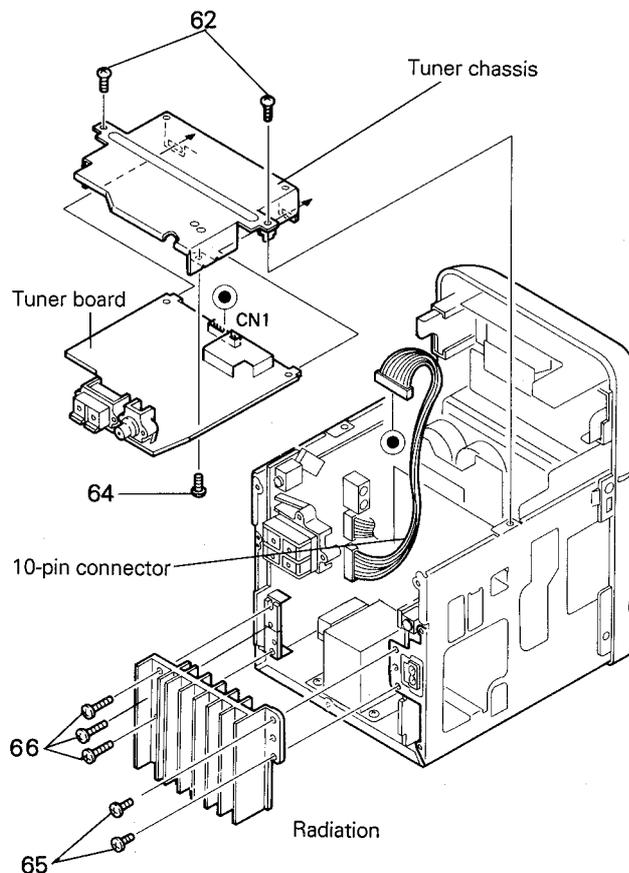

Fig. 7-10
■ **Tuner board** (Fig. 7-10)
1. Remove two screws (62) retaining the tuner chassis to the main unit.
3. Remove a screw (64) retaining the Tuner board and the tuner chassis from the back of the Tuner board.
■ **Heat sink** (Fig. 7-10)